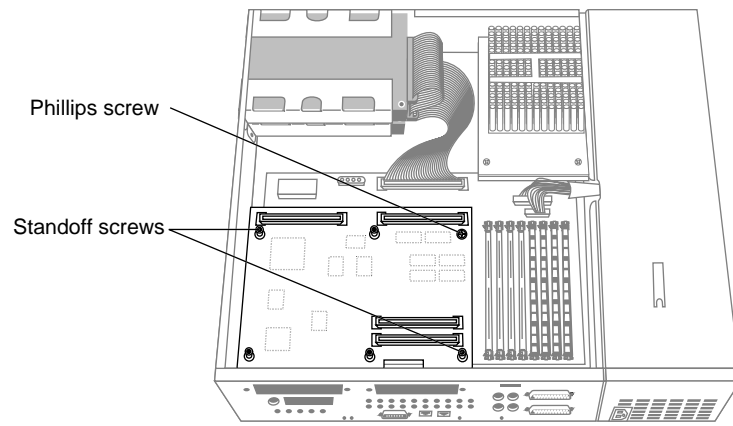

Figure 10 Removing the screws from the graphics board
2. Use the other end of the open-ended wrench to unscrew the two standoff screws (tall, hexagonal posts) from the graphics board, as shown in Figure 10.